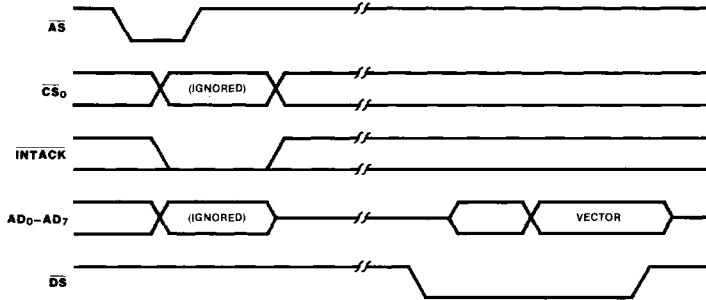

Figure 17. Interrupt Acknowledge Cycle Timing
**Interrupt Acknowledge Cycle Timing.** Figure 17 illustrates Interrupt Acknowledge cycle timing. The address on AD0-AD7 and the state of CS0 and INTACK are latched by the rising edge of  $\overline{AS}$ . However, if  $\overline{INTACK}$  is Low, the address and CS0 are ignored. The state of the R/W and CS1 are also ignored for the duration of the Interrupt Acknowledge cycle. Between the rising edge of  $\overline{AS}$  and the falling edge of